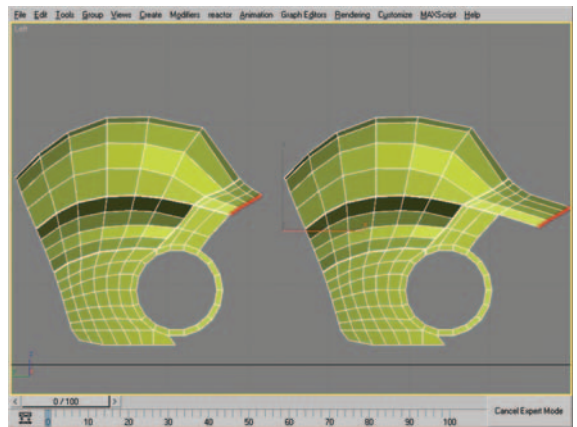

Figure 8.36 Edge selection and resulting mesh after performing shift-drag.
39. Select the four edges seen in Figure 8.36 (left) and shift-drag them to create the new polygons seen in Figure 8.36 (right).